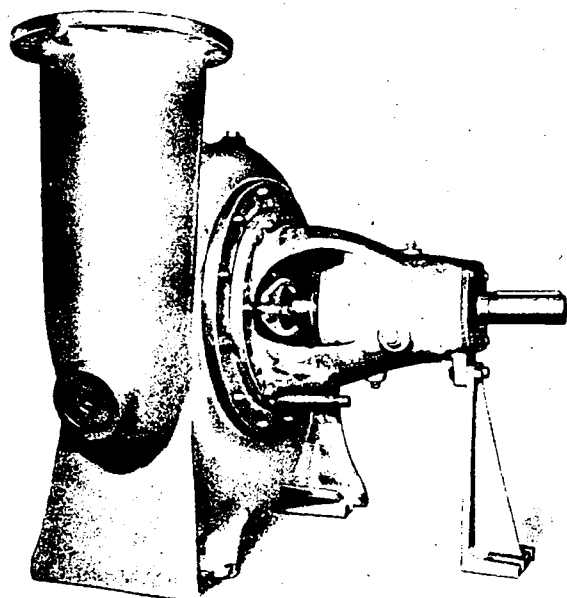

Fig. 16: Loosen hexagonal nuts of casing screws
Detach supporting leg (183) from the base plate. Loosen nuts (920.1) of the casing screws (902.1) - fig. 16.